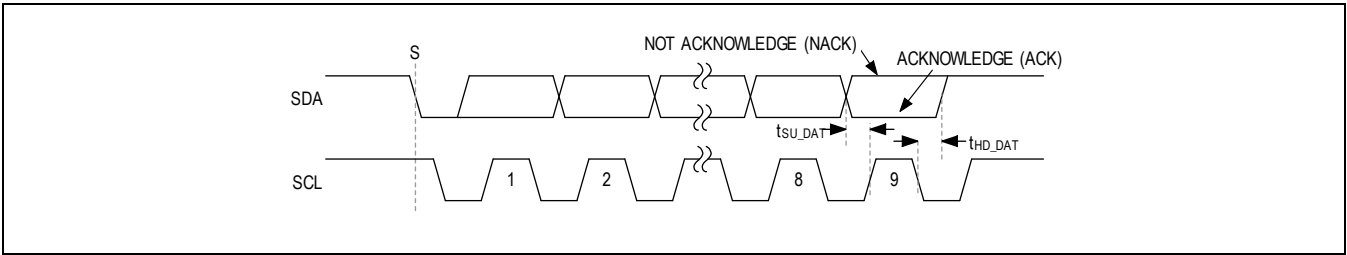

Figure 23. Acknowledge Bit
Both the I2C bus controller and devices generate acknowledge bits when receiving data. The acknowledge bit is the last bit of each ninth-bit data packet. To generate an acknowledge (A), the receiving device must pull SDA low before the rising edge of the acknowledge-related clock pulse (ninth pulse) and keep it low during the high period of the clock pulse. See Figure 23. To generate a not-acknowledge (nA), the receiving device allows SDA to be pulled high before the rising edge of the acknowledge-related clock pulse and leaves it high during the high period of the clock pulse.